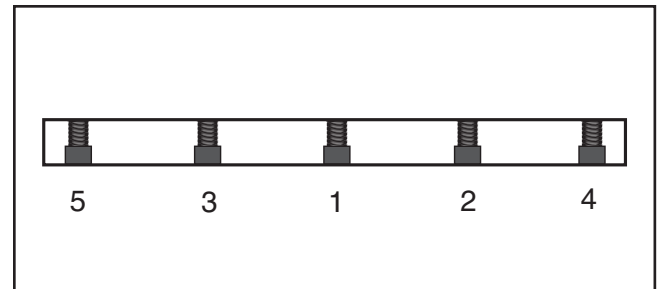

Figure 54. Gib bolt tightening sequence.
8. Rotate the cutterhead to the first knife you started with. Slightly tighten all the gib bolts, starting at the middle and working your way to the ends by alternating left and right (**Figure 54**). Repeat this step on the rest of the knives.